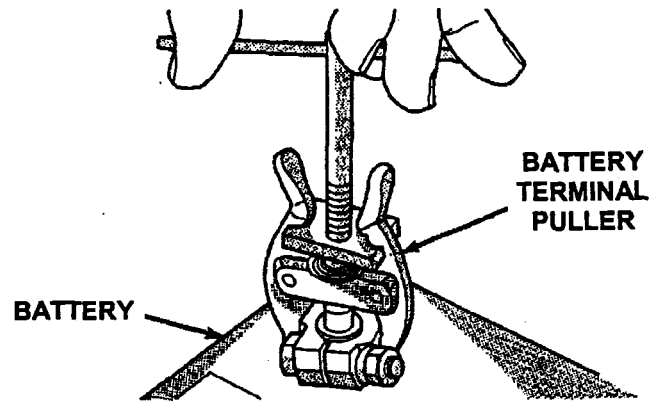

Figure 3
3. Disconnect the battery negative cable terminal clamp from the battery negative terminal post. If necessary, use a battery terminal puller to remove the terminal clamp from the battery post (Figure 3).
5. Disconnect the battery positive cable terminal clamp from the battery positive terminal post. If necessary, use a battery terminal puller to remove the terminal clamp from the battery post (Figure 3).